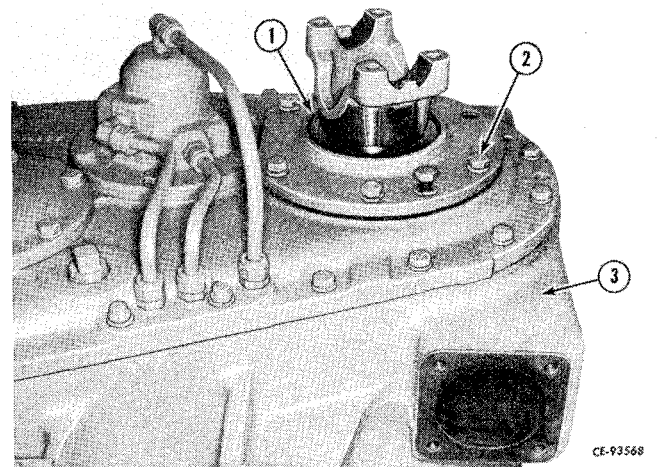

Figure 4-79
Install output cap and shaft and cap assembly (1, Fig. 4-79) and secure transmission (3) with cap screws (2).